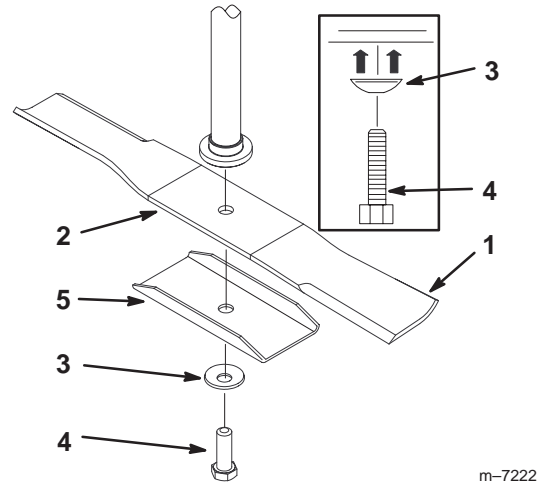
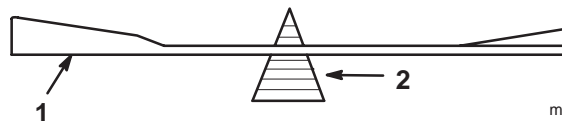

Figure 35
Figure 37
Hold the blade end using a rag or thickly-padded glove. Remove the blade bolt, curved washer, stifener and blade from the spindle shaft (Fig. 35).
2. Check the balance of the blade by putting it on a blade balancer (Fig. 37). If the blade stays in a horizontal position, the blade is balanced and can be used. If the blade is not balanced, file some metal off the end of the sail area only (Fig. 35). Repeat this procedure until the blade is balanced.
1. Install the blade onto the spindle shaft with the stifener (Fig. 35).
2. Install the curved washer (cupped side toward the blade) and blade bolt (Fig. 35). Torque the blade bolt to 35–65 ft-lb (47–88 N·m).